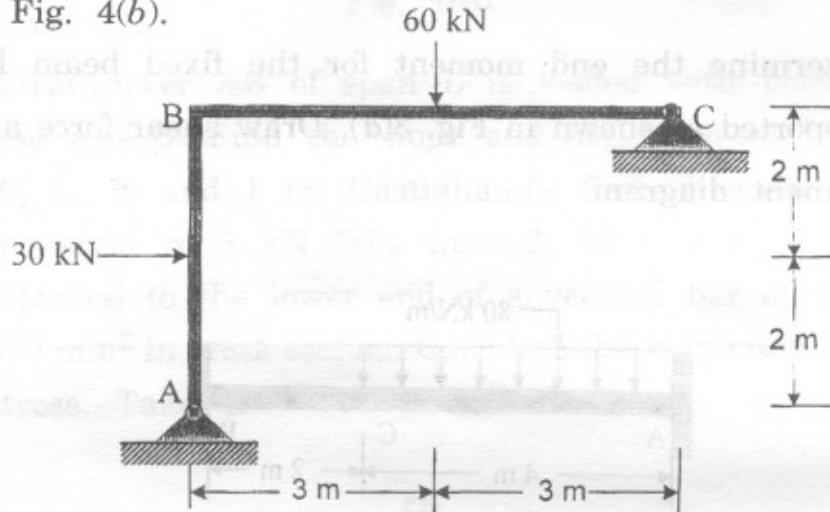

Fig. 4(b)
- (b) Determine the reaction component and draw the bending moment diagram for the frame loaded and supported as shown in Fig. 4(b). [8]